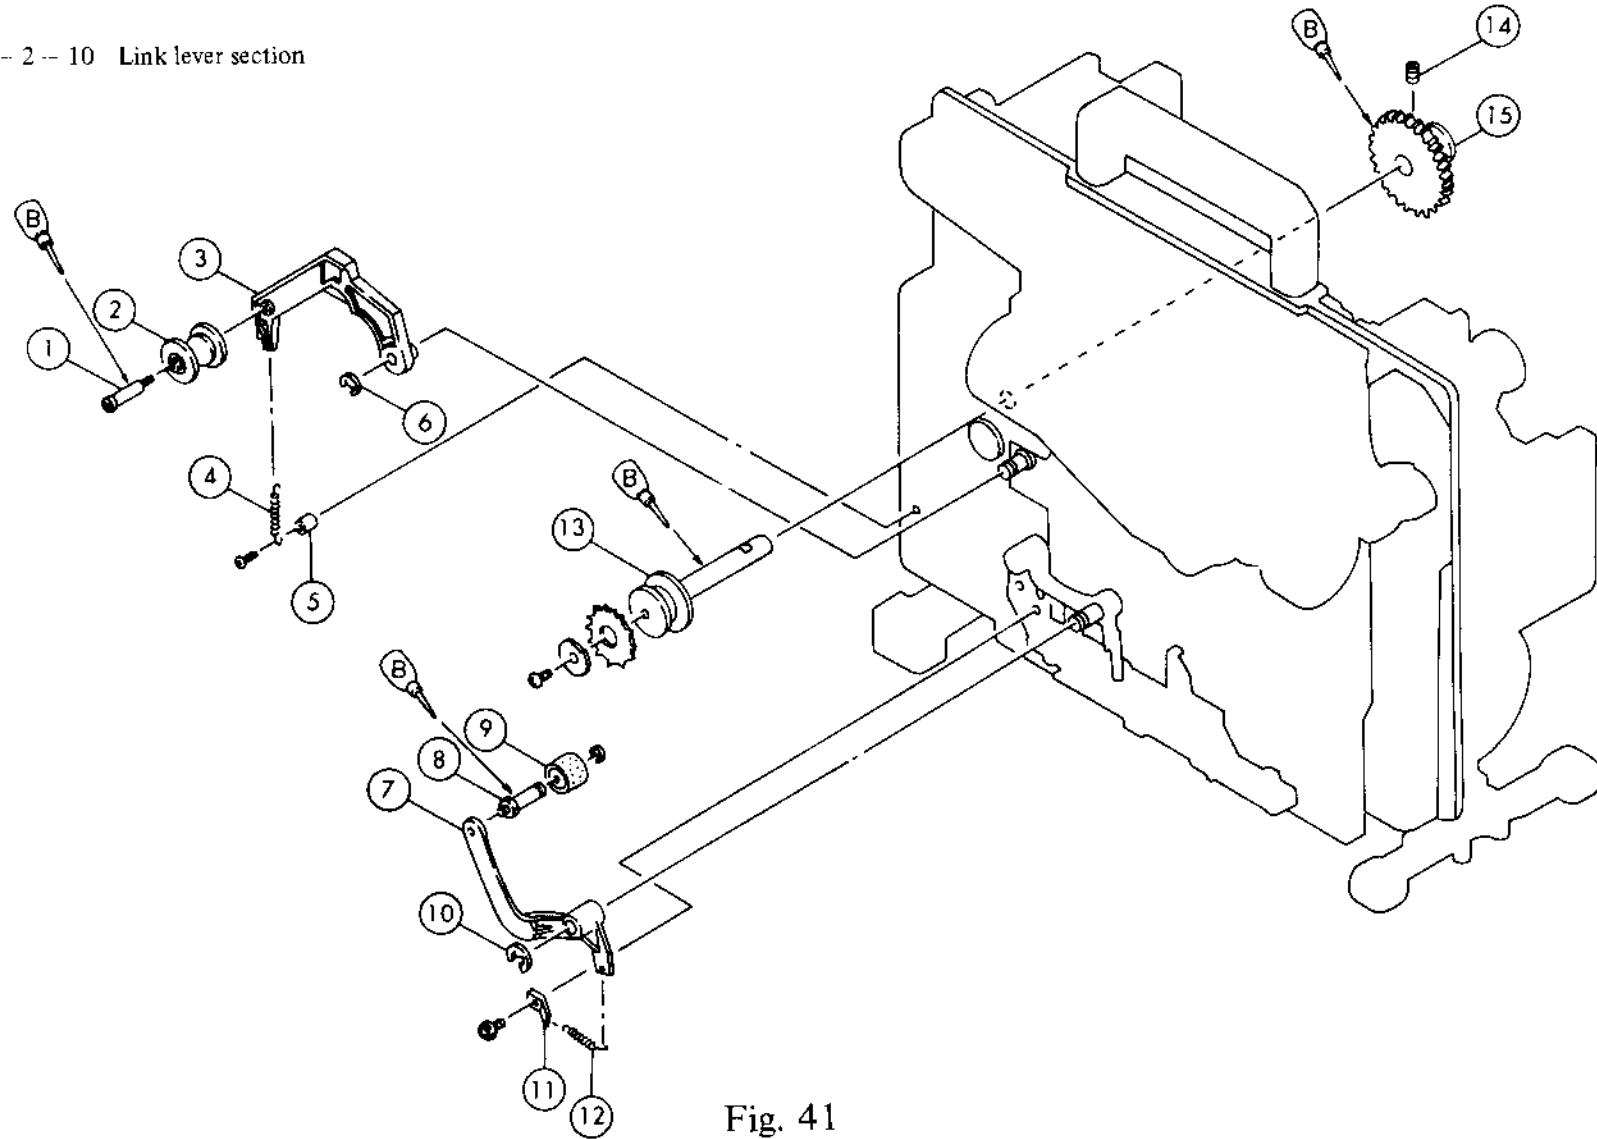

Fig. 41
1. Take out ⑬ by removing ⑭ x 2 pcs. before removing ③.
2. For further disassembly, refer to Fig. 41.